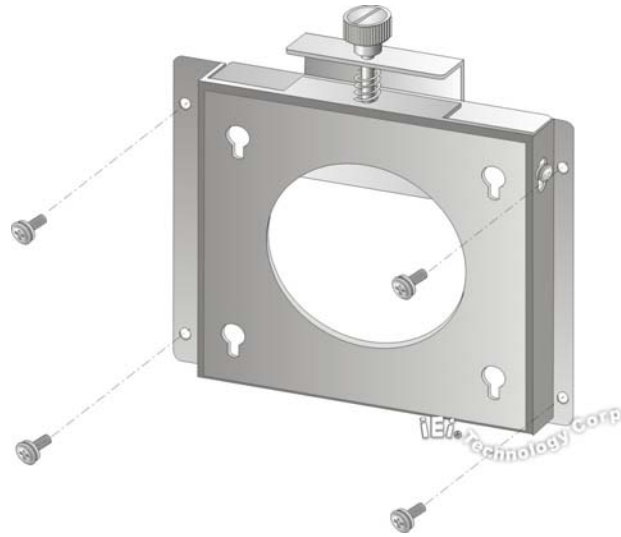

Figure 2-10: Wall-mounting Bracket
- Step 5:** Secure the mounting-bracket to the wall by inserting the retention screws into the four pilot holes and tightening them (**Figure 2-10**).